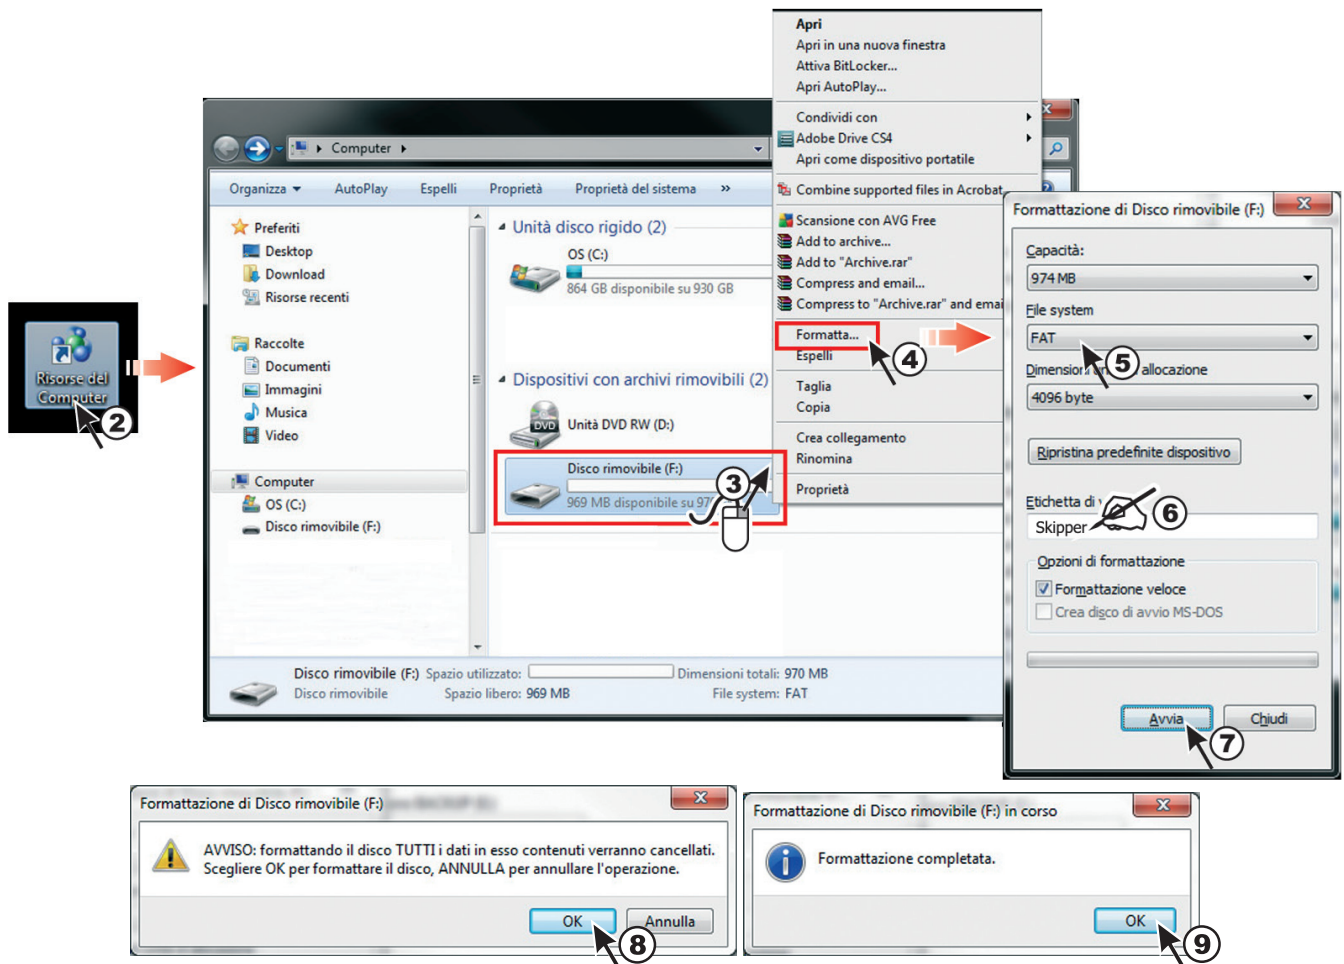

Fig. 84
- 3 Click with the mouse RH button on the icon corresponding to the connected Pendrive (**Removable drive F:** in Fig. 84).
- 6 OPTION: enter the name you want to assign to the Pendrive (**Skipper LT**, in Fig. 84).